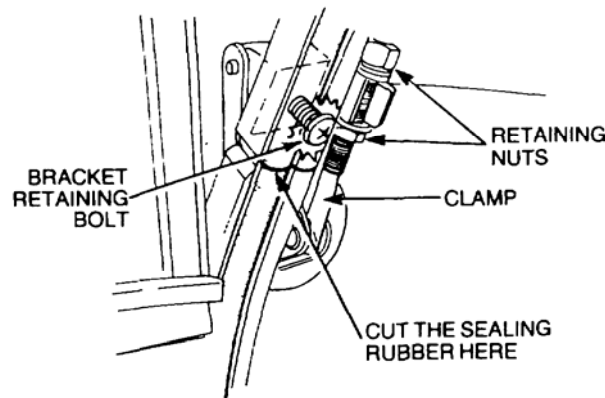

Figure 16 Removal of the Windscreen Frame Clamp
- dd.** Remove the locknuts and washers from the clamps securing the windscreen frame to the firewall (Figure 16).